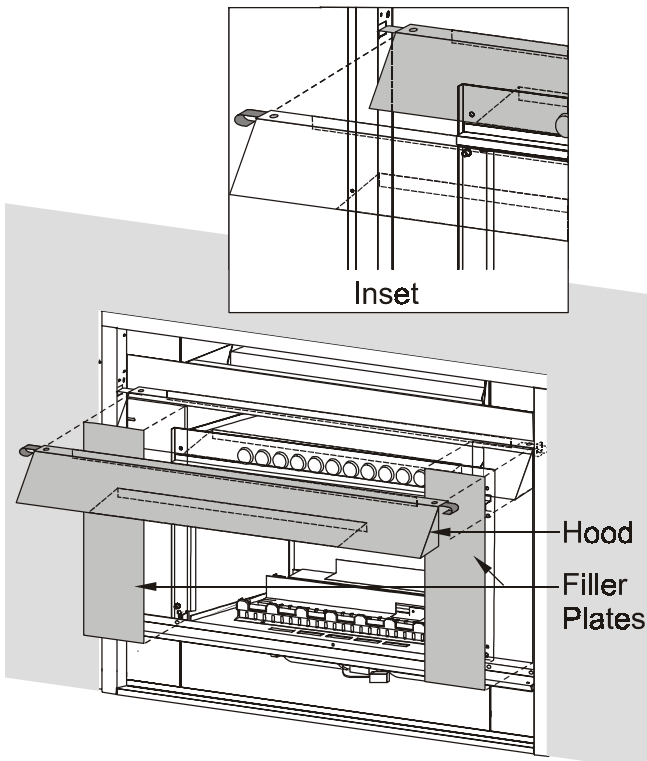

Figure 22. *Installing the hood and filler plates.*
- 13. Install the filler plates first and then the hood as shown in Figure 22. Loosen the two adjustment screws on the mounting brackets. Hook the bottom of the hood of the top edge of the Insert and slide the mounting brackets into the holes on each side of the shell. Re-tighten the adjustment screws.